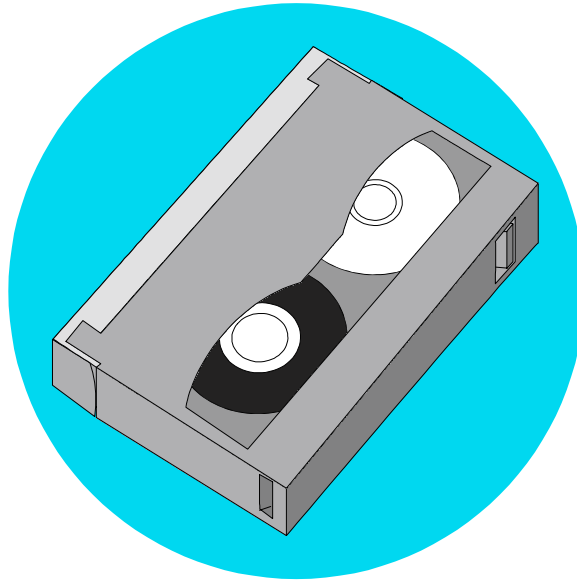

Figure 15. Representative Cleaning Cassette
- ❑ Check the usage record on the label of the cleaning cassette to make sure that there is at least one cleaning cycle remaining. If there are no cleaning cycles remaining, discard the cleaning cassette and use a new one. Figure 15 shows a sample cleaning cassette with the label to write the date of each use.